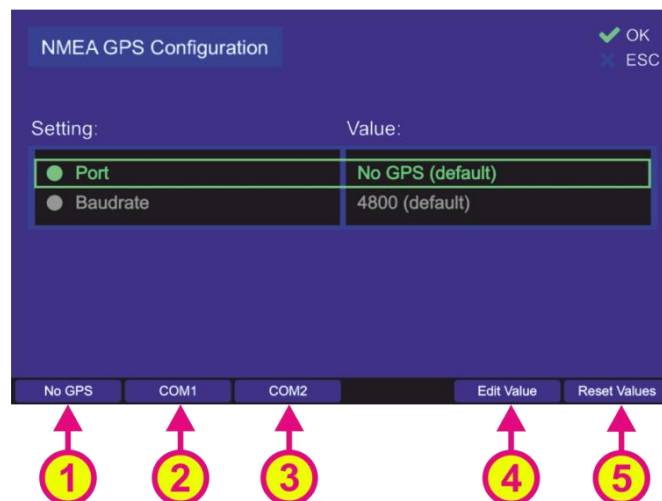

Fig. 156 NMEA GPS configuration settings
Following sub-menu will appear (s. Fig. 156).
- Pressing the hotkey "Reset Values" (s. Fig. 156, position 5) will set all menu items to default values.
- In order to change this setting, press the hotkey “Edit Value” while the menu item “Port” is marked (s. Fig. 156). The corresponding sub-dialog will be opened (s. Fig. 155).
- To change the baud rate, press the hotkey “Edit Value” while the menu item “Baudrate” is marked (s. Fig. 156). The corresponding sub-dialog will be opened (s. Fig. 158).